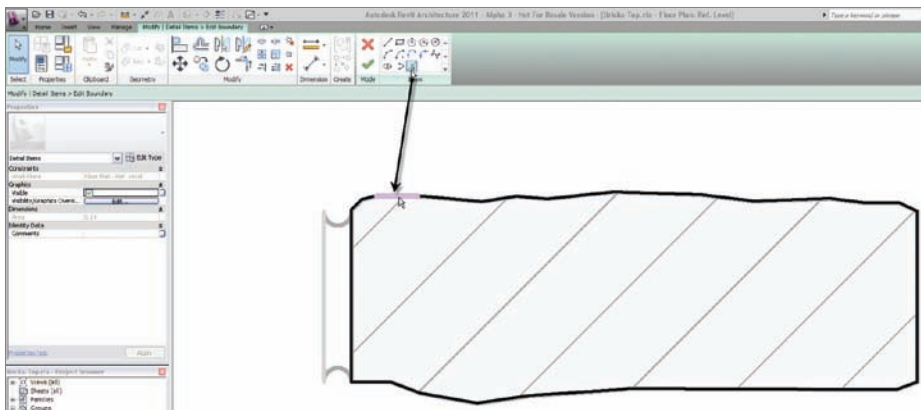

FIGURE 12.27 Press Tab to select the chain of lines, as shown here.
11. On the Draw panel, click the Pick Lines button, as shown in Figure 12.27.
13. When you press Tab, all of the lines you are trying to trace are highlighted. After the lines are all highlighted, pick any one of the lines, as shown in Figure 12.27. Revit will draw the region based on these points.